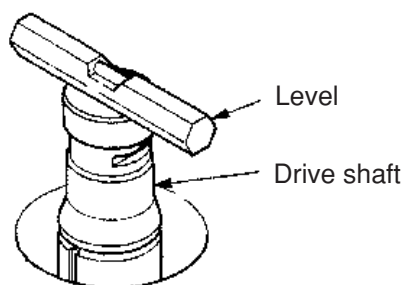

Fig. 5-3 Level Placement
- (3) Place the level (part no. 45216) across the top of the drive shaft in the rotor chamber (see Fig. 5-3). Turn the four leveling screws until the bubble in the level indicates the instrument is level.
- (4) When the instrument is level, check that the four leveling screws are secured to the floor.